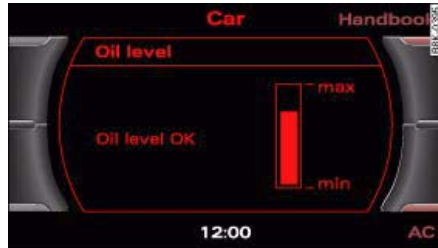

Fig. 255 Display: Oil level
- Read off the oil level on the display ⇒ fig. 255. Top up the engine oil if the bar in the oil level display is near the "min" mark ⇒ *page 259*.